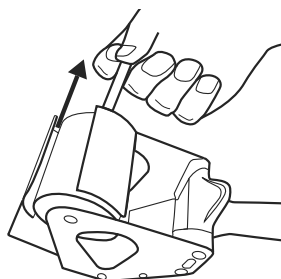

Figure 2
2. Pull out ring tube. (See Figure 2)